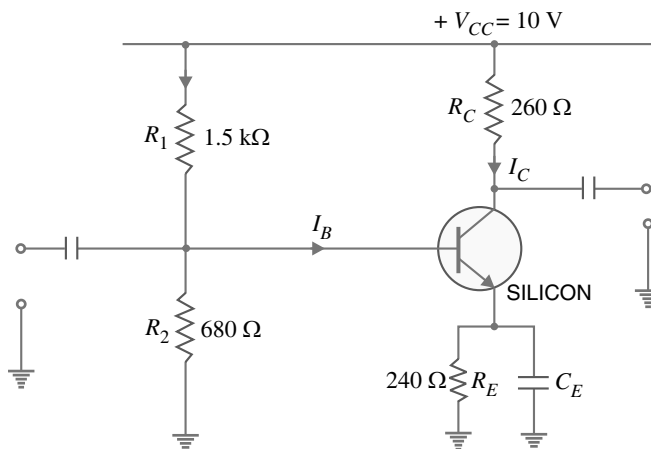

Fig. 7.44
**Example 7.37.** Find the value of  $I_B$  for the circuit shown in Fig. 7.44. Given that  $\beta$  has a range of 100 to 400 when  $I_C = 10\text{ mA}$ .